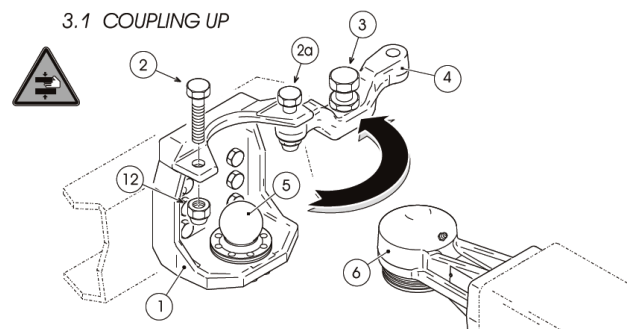

Figure 6.12
- ✓ Remove safety lock screw (2), recover and keep the relative self-locking nut (12) aside then also loosen safety lock screw (2a) and turn out the adjustment screw (3) by at least five turns (Figure 6.12).
- ✓ Rotate the safety cover bar (4) outwards so that it is completely open.
- ✓ Reverse truck very slowly until the ball cup drawbar eye (6) is in position exactly above the drawbar coupling ball (5).